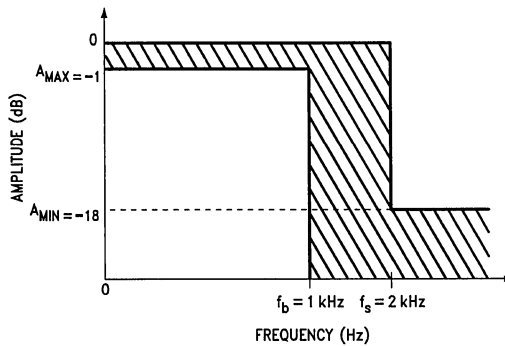

FIGURE 6. Design Example Magnitude Response Specification where the Response of the Filter Design must fall within the shaded area of the specification
Suppose the amplitude response specification in *Figure 6* is given. Can the MF4 be used? The order of the Butterworth approximation will have to be determined using (1):
This result also meets the design specification given in *Figure 6* again verifying that a single MF4 section will be adequate.